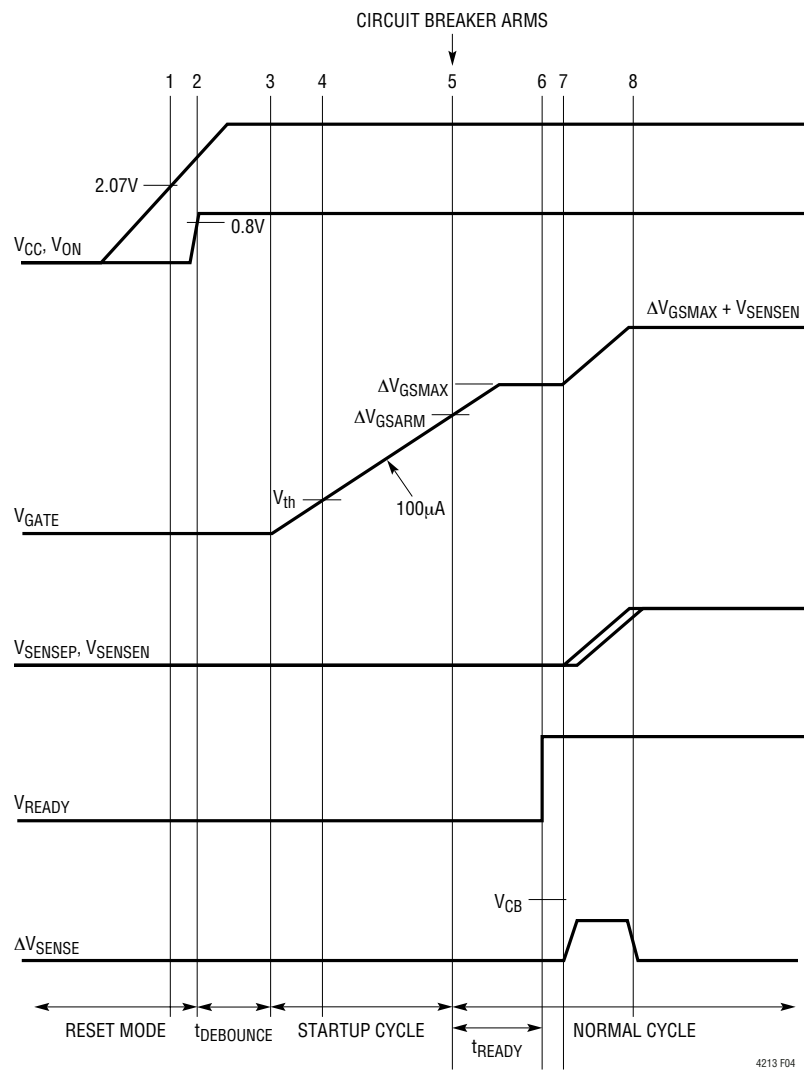

Figure 4. Load Supply Power-Up After Circuit Breaker Armed
Figure 4 shows a normal power-up sequence for the circuit in Figure 1 where the V_{IN} load supply power-up after circuit breaker is armed. V_{CC} is first powered up by an auxiliary bias supply. V_{CC} rises above 2.07V at time point 1. V_{ON} exceeds 0.8V at time point 2. After a 60 μs debounce delay, the GATE pin starts ramping up at time point 3. The external MOSFET starts conducting at time point 4. At time point 5, V_{GATE} exceed $\Delta V_{\text{GS ARM}}$ and the circuit breaker is armed. After 50 μs (t_{READY} delay), READY pulls high by an external resistor at time point 6. READY signals the V_{IN} load supply module to start its ramp. The load supply begins soft-start ramp at time point 7. The load supply ramp rate must be slow to prevent circuit breaker tripping as in equation (8).